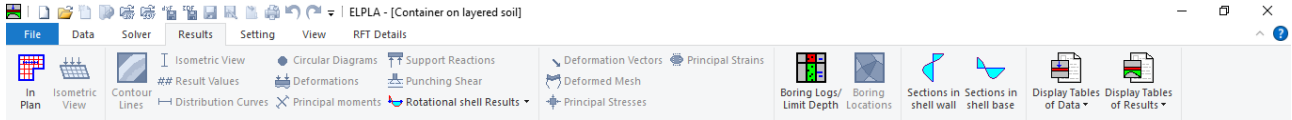

Figure 12.28 "Results" Tab
*ELPLA* can display and print a wide variety of results in graphics, diagrams or tables through the "Results" Tab. To view the data and results of a problem that has already been defined and analyzed graphically, switch to "Results" Tab (Figure 12.28).